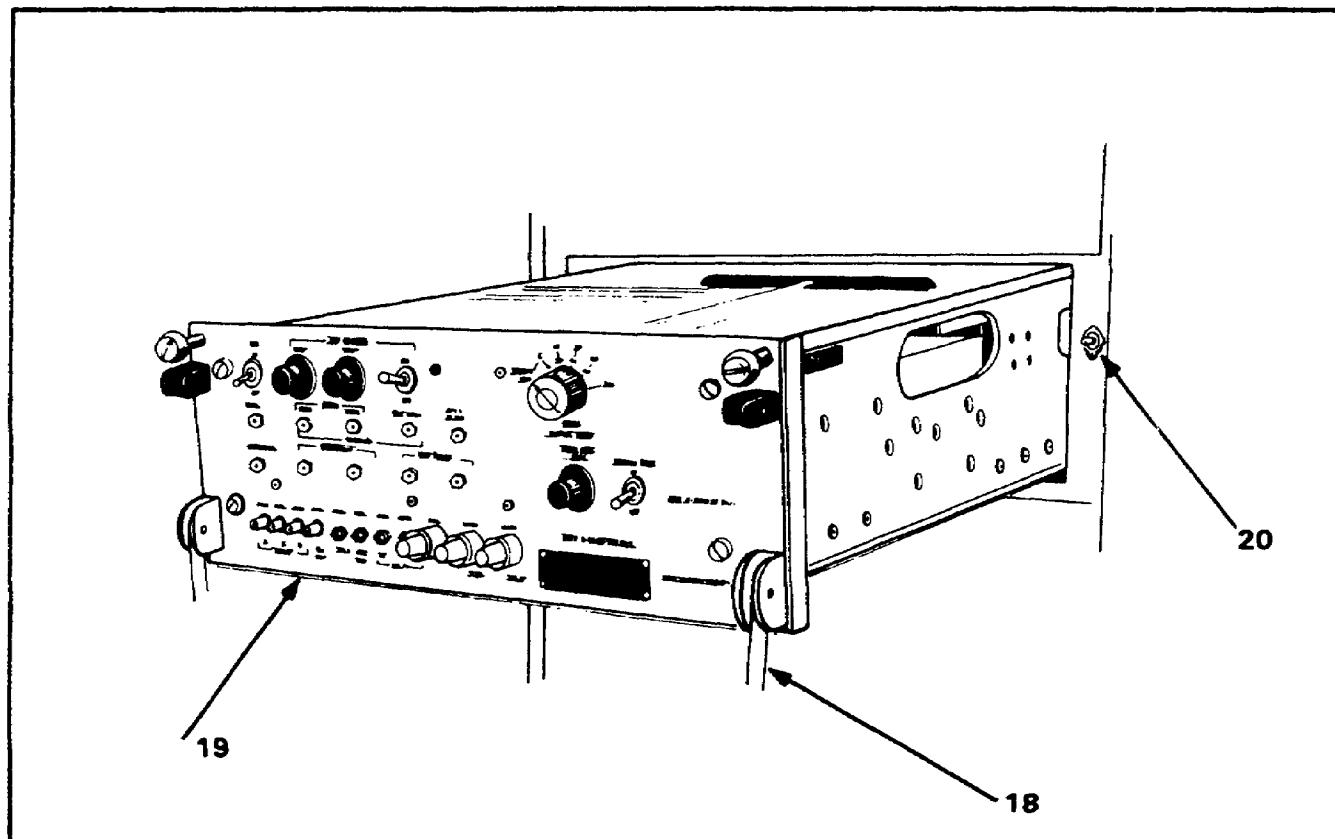

Figure 8. Synchronizer-generator, electronic-marker
g. Disengage the release handles (18). Pull the drawer (19) forward and locate the INTERLOCK switch S102 (20). Pull the INTERLOCK switch forward. (See Figure 8.)
- Chassis interlock switch S-102 (Figure 8)